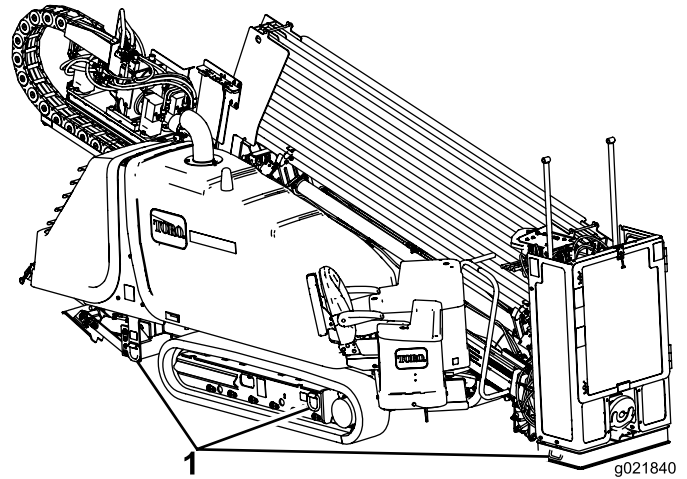

Figure 73
8. Use appropriately rated chains and binders to secure the rings on the left and right track frames and the stake-down plate to the trailer (Figure 73).